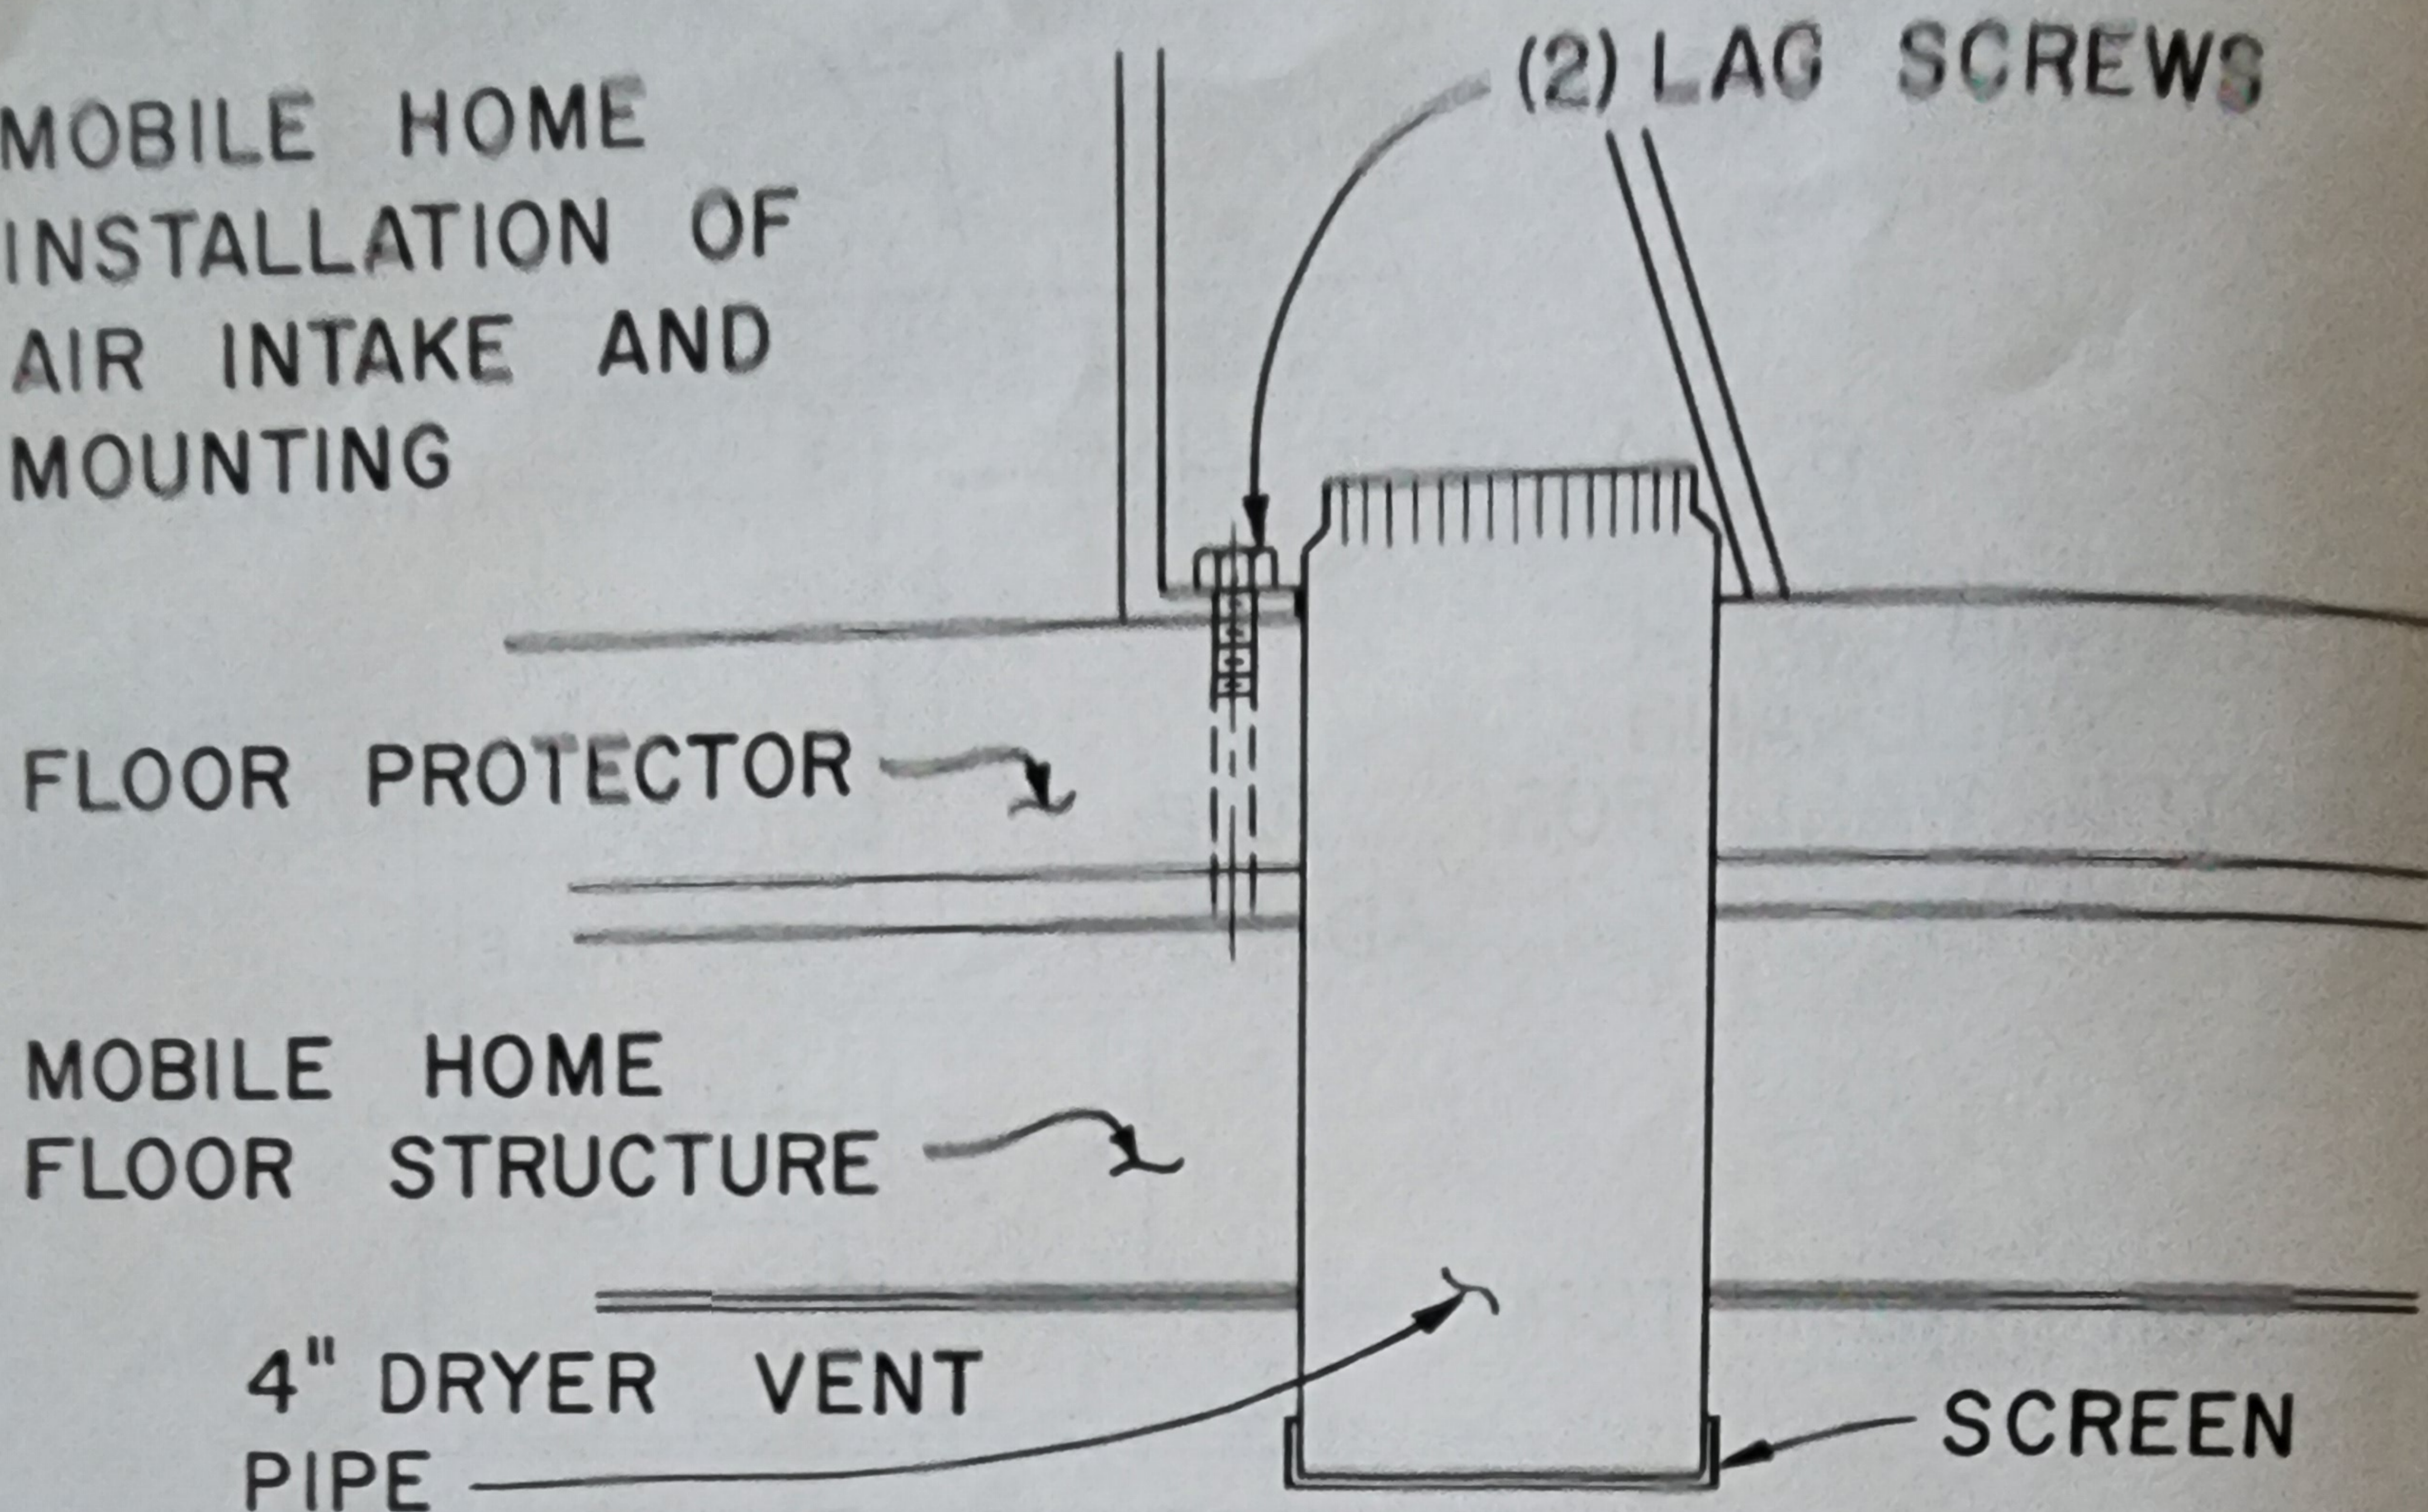

FIGURE 9
MOBILE HOME COMBUSTION AIR INLET: Combustion air must be drawn from the outside through the floor and up into the pedestal. Attach Air Cover Plate to air inlet under stove front. (See figures 9 & 10)
2. Locate stove in desired position (See Section: Location of Stove). If mobile home installation, drill 4 inch diameter hole through floor of mobile home. Install 4 inch diameter dryer vent pipe (mobile home kit) and (2) lag screws (customer supply). (See Figure 9).